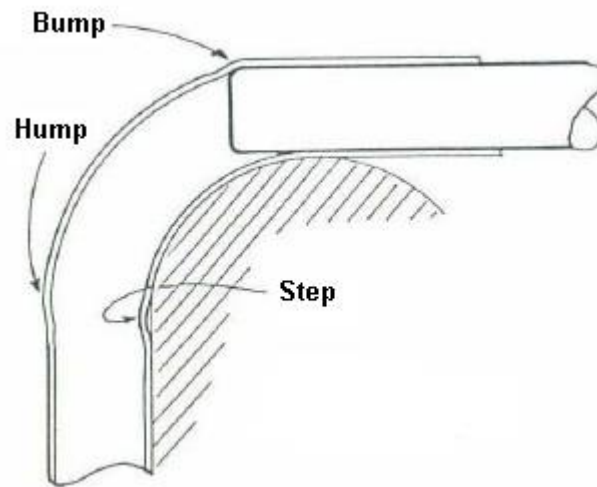

Figure 10
**Mandrel too far forward:** When the mandrel is too far forward (**Figure 10**) bumps appear on the outside of the bend at the terminal tangent and a step on the inside of the bend at the starting tangent. These are shown on the same tube. They will not always appear at the same time, depending upon shape of the mandrel and bend radius. The bump, obviously, is caused by the mandrel. The end of the mandrel prying the tube away from the bend die forms the step.